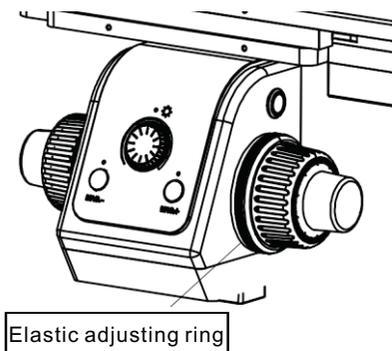

Fig.14
If the hand feel is heavy and uncomfortable during coarse focusing, or the sample leaves the focus plane quickly after focusing, and the stage drops automatically, these can be solved by adjusting the elastic adjusting ring ①, and the weight of the focusing mechanism can be changed by rotating in the direction shown in the figure. (See Fig.14)